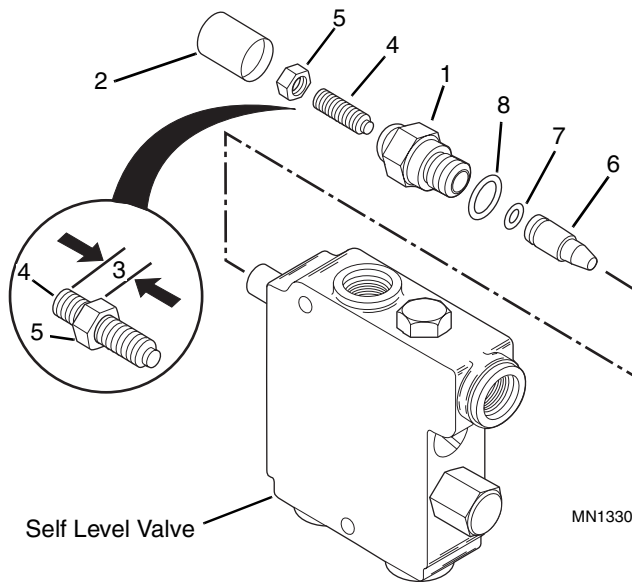

Figure 4-31 Self Level Valve Adjustable Orifice
6. Remove the adjustment cap assembly (Fig. 4-31, 1) from the self level valve.
1. Remove the cover (Fig. 4-31, 2) from the orifice assembly. Measure and record the visible thread length (Dimension 3) from end of the setscrew (4) to the top of the jam nut (5).
2. Remove the nut (Fig. 4-31, 5) and setscrew (4) from the adjustment cap (1).
3. Slide pin (Fig. 4-31, 6) out of the adjustment cap (5). Remove and discard the o-ring (7) from the pin.
4. Remove and discard the o-ring (Fig. 4-31, 8) from the adjustment cap (1).
1. Replace o-rings (Fig. 4-31, 7 & 8) with new o-rings.
2. Replace pin (Fig. 4-31, 6) if it is damaged.
1. Lubricate new o-ring (Fig. 4-31, 8) with clean oil and install it on the adjustment cap (1). Do not cut or over stretch o-ring.
2. Lubricate new o-ring (Fig. 4-31, 7) with clean oil and install it on the pin (6). Do not cut or over stretch o-ring.
3. Lubricate pin (Fig. 4-31, 6) with clean oil and carefully slide it into the adjustment cap (1).
4. Install the nut (Fig. 4-31, 5) onto the setscrew (4), and screw the setscrew into the adjustment cap (1). Adjust the visible thread distance (3) to the dimension recorded in "Disassembly," Step 1, and tighten the nut (5).
5. Install the cover (Fig. 4-31, 2) on the adjustment cap (1).
- If the attachment does not move, the setscrew (Fig. 4-31, 4) has bottomed out on the pin, and needs to be adjusted OUT.
- If the attachment curls, the setscrew (Fig. 4-31, 4) needs to be adjusted OUT.
- If the attachment dumps, the setscrew (Fig. 4-31, 4) needs to be adjusted IN.
Remove the cover (Fig. 4-31, 2), loosen the nut (5), and adjust the setscrew (4) in small increments until the proper self level response is achieved. Tighten the nut (5) and replace the cover (2) to complete the adjustment.